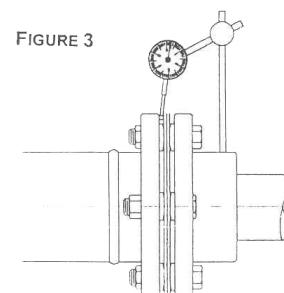

FIGURE 3
1. After preliminary alignment and complete assembly, secure a dial indicator to one hub as shown in fig. 3 and indicate the face of the other hub as shown. The method of mounting the indicator is optional.